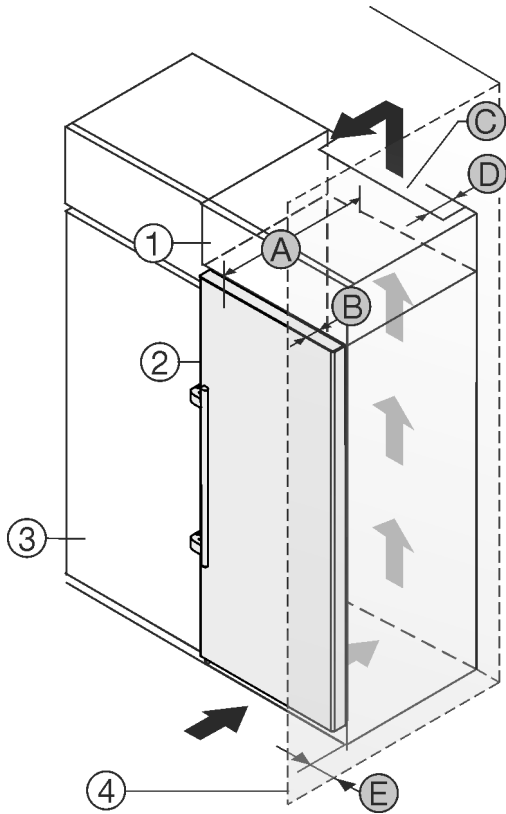

Fig. 1
- (1) Top cabinet
- (2) Appliance
- (3) Kitchen cabinet
- (4) Wall
- (A) Appliance depth
- (B) Door depth
- (C) Ventilation cross-section
- (D) Distance to the rear of the appliance
- (E) Distance to the side of the appliance
There must be a ventilation shaft at the depth Fig. 1 (D) of the back of the top cupboard over the entire width of the top cupboard.
The cross section of the ventilation gap Fig. 1 (C) must be maintained below the ceiling.
If the appliance is set up with the hinges next to a wall Fig. 1 (4), the distance between the appliance and the wall must be at least 57 mm (2 1/4 in) . This is how far the handle protrudes when the door is open.
In order to be able to fully open the door, the appliance must protrude by the depth of the door Fig. 1 (B) from the front of the kitchen cabinet. Regardless of the depth of the kitchen cabinets Fig. 1 (3) and use of wall spaces, the appliance can protrude further.